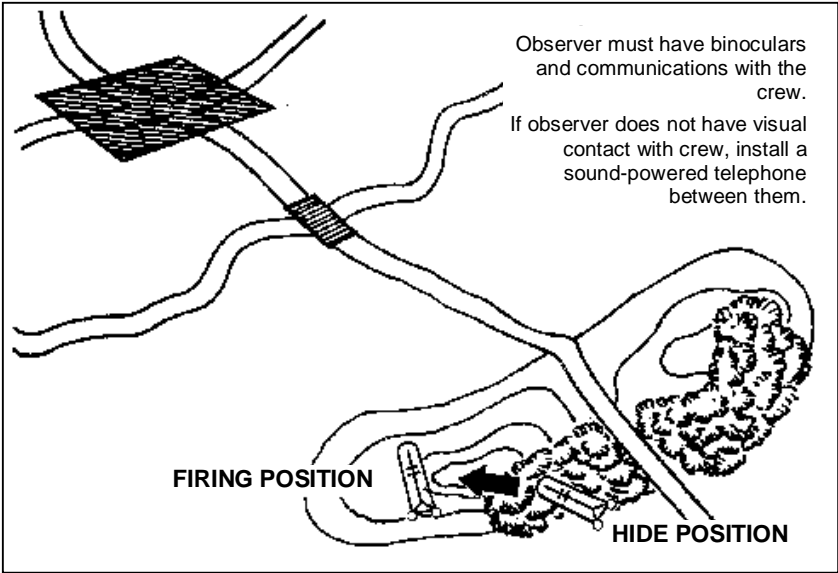

Figure 2. Hull-down position.
- (3) If no hull-down position is available, use a hide position (Figure 2).